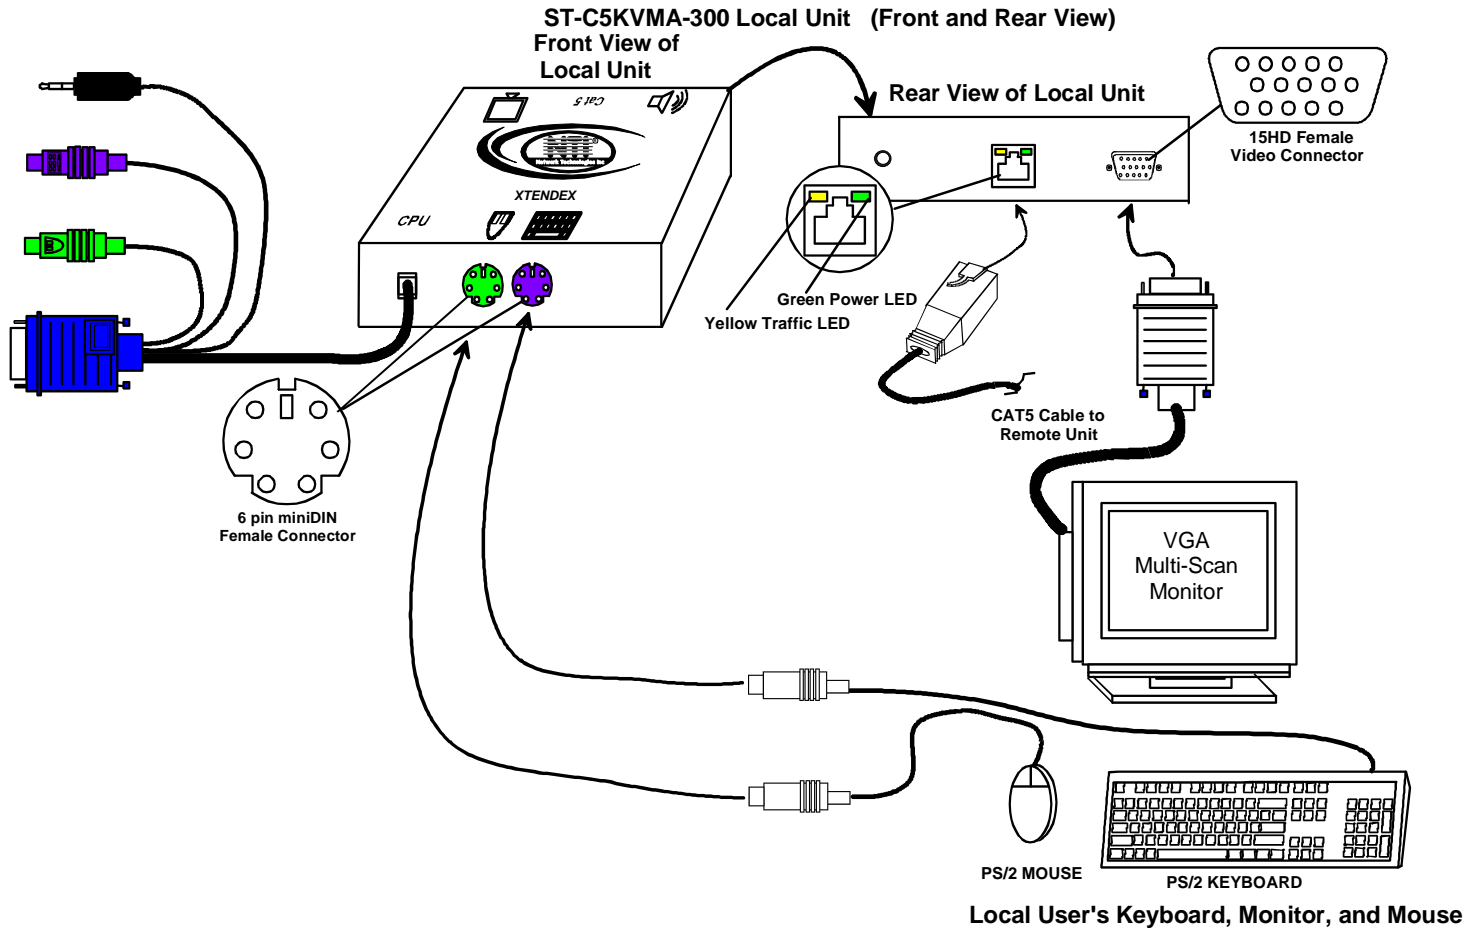

Figure 4- Connect the local user to the XTENDEX Local Unit
1. Make connections for a local user (see Fig. 4)